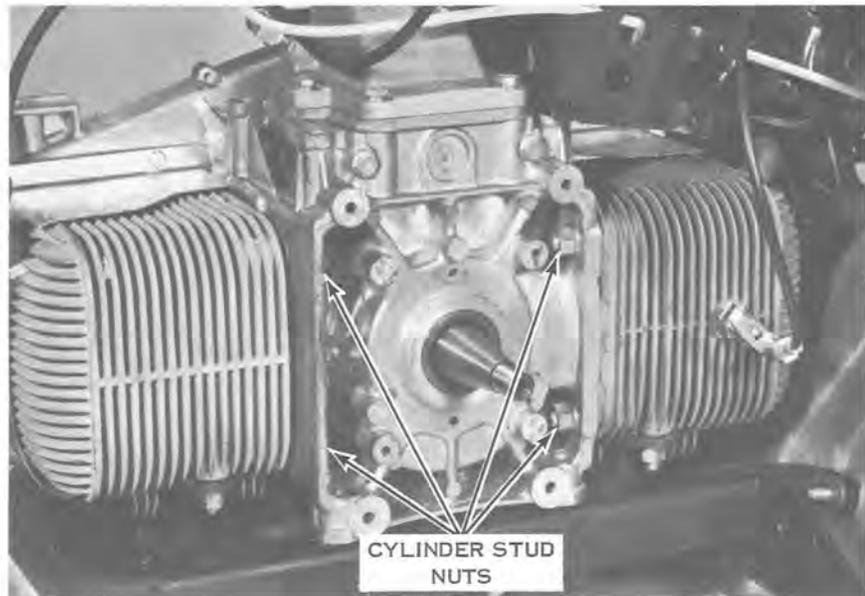

Figure 9-9
- i. Remove the cylinder stud nuts and lockwashers. The cylinder barrel can now be removed from the crankcase. See Figure 9-9.